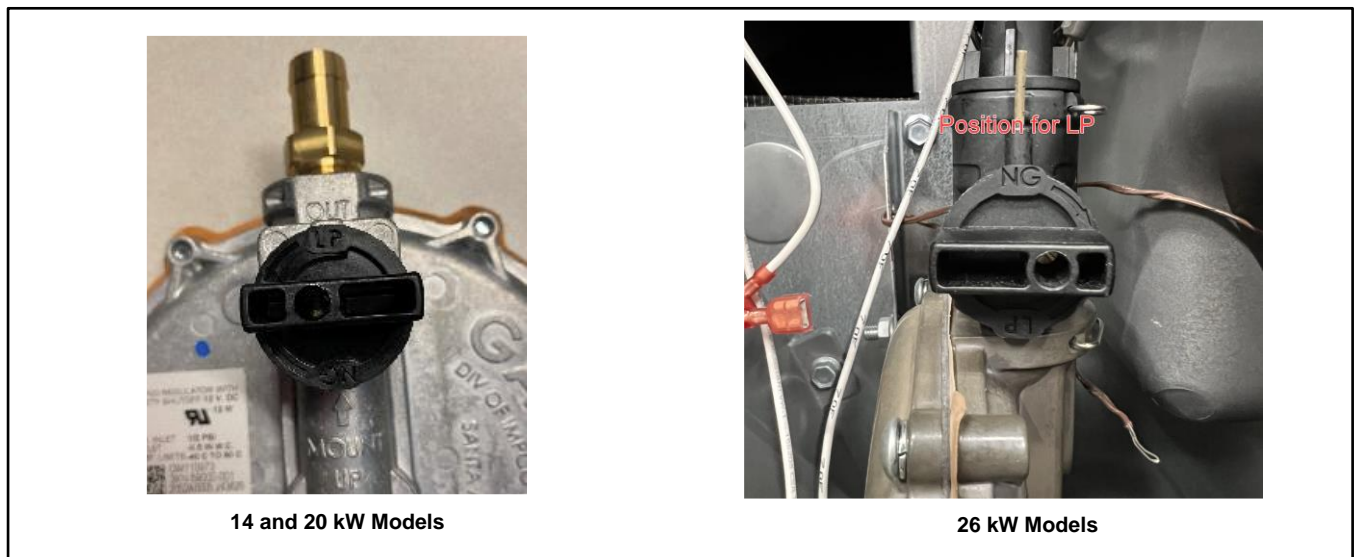

Figure 19 Knob Position, LPG
- b. For LPG, turn the selection knob counterclockwise as far as it will go, approximately ¼ turn. See Figure 19.